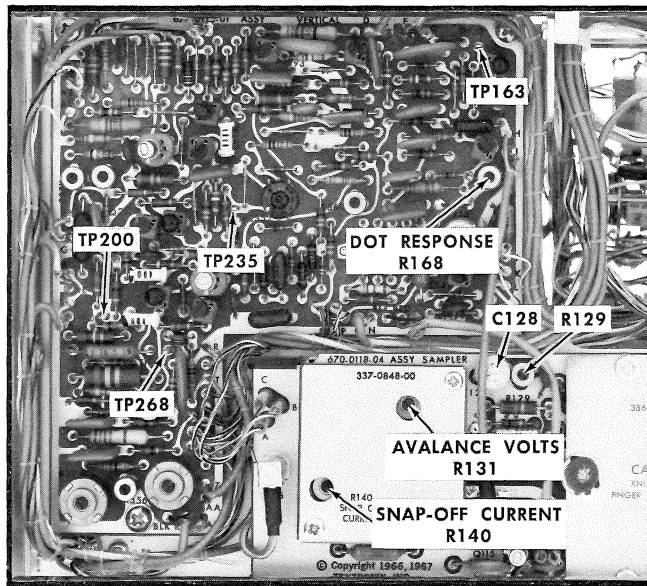

Fig. 7-31. Location of adjustments on Vertical circuit board for steps 34 and 35.
- i. Readjust the Type 1S2 SNAP-OFF CURRENT control (R140), for the shortest risetime as measured from the 10% to the 90% amplitude points on the reflected portion of the pulse. See Fig. 7-31.